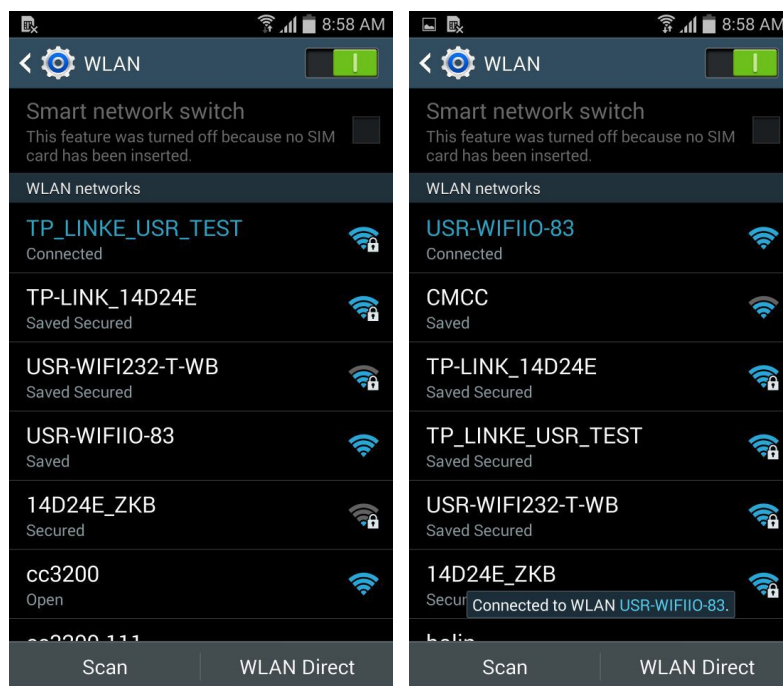

Fig.2 Set up wireless network
2. Set up WLAN. Your mobile phone should link to our device, as shown in Fig.2.